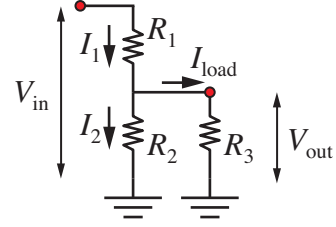

Figure 4: A voltage divider with non-negligible load current.
A voltage divider (or potentiometer) can still operate in situations where the load current is not negligible. However, when I_{load} is not small, Equation (5) is not an accurate prediction of V_{out} . Figure 4 shows the circuit diagram for a voltage divider with non-negligible I_{load} . R_3 is the load resistance.
The effective resistance of the circuit in Figure 4 is